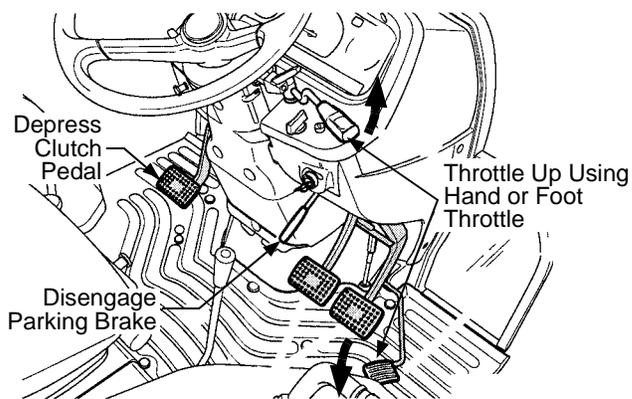

Figure 29
- Momentarily depress the brake pedals to disengage the parking brake. Refer to Figure 29.
- Throttle up the engine to a moderate speed using either the hand throttle or foot throttle. See Figure 29.